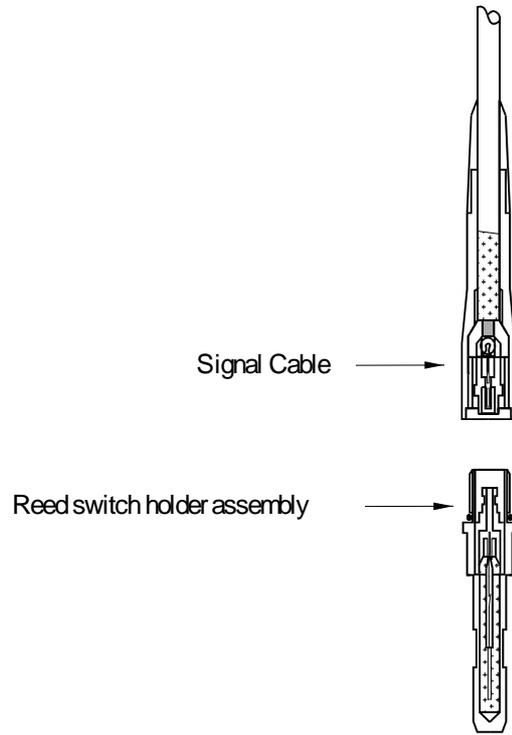

Figure 5 - Reed Switch Assembly
8.5. Figure 5 - Reed Switch Assembly